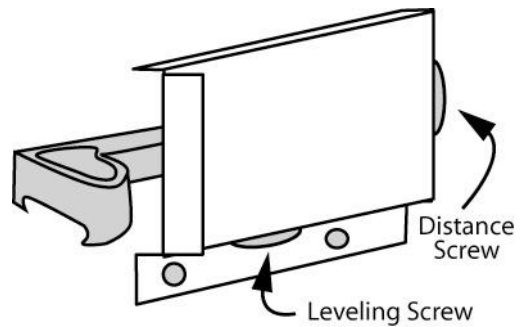

Fig. 10
14. Level section panels using a 4' level. (Corner walls may not be level in comparison to panels along the open wall.) Adjust plumb of each panel using the set screw on the bottom of each suspension bracket as needed. (See Fig. 10.) Adjust the distance of the panels from the wall by tightening or loosening the distance screws. (This step ensures panel front edges are flush for meeting doors and drawers.)